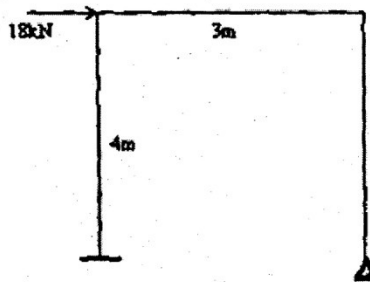

Figure 4
20. Analyse the rectangular portal frame ABCD loaded as shown in figure 4 by moment distribution method. The end A is fixed and D is hinged. The joint B and C are rigid. EI is constant for the entire frame.